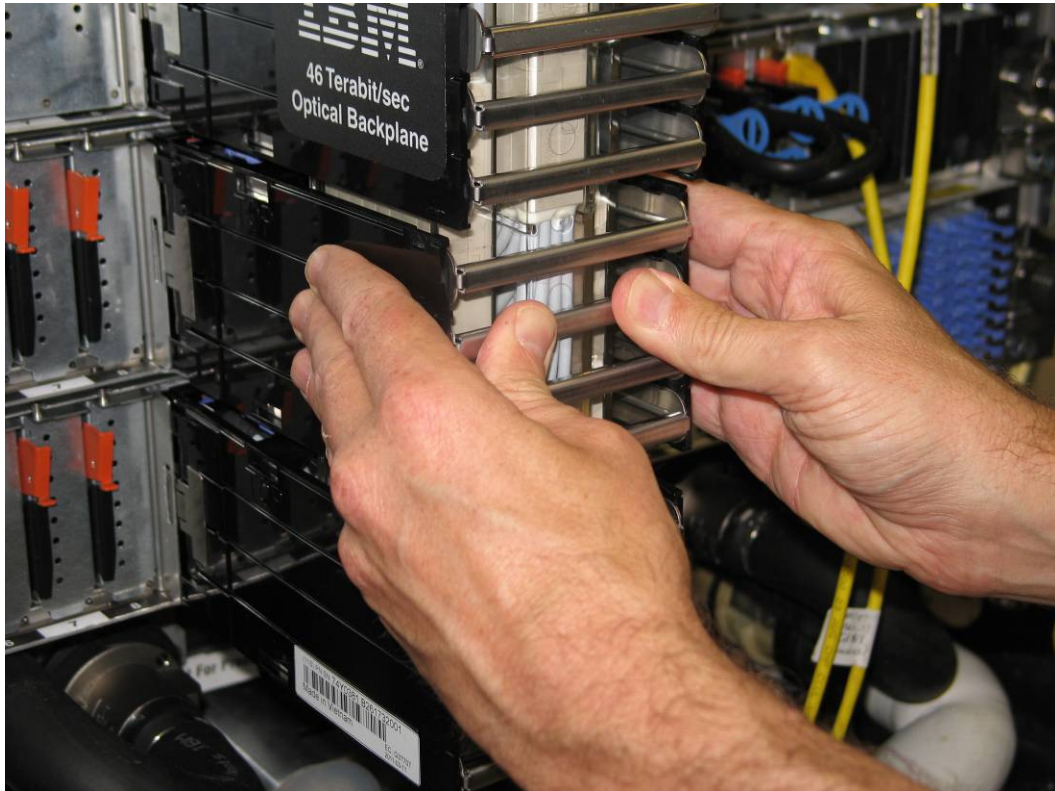

Figure 37 OBE Installation
- Once all 4 handles are slid forward with the L-Link connectors in the L-Ports of the adapters, do the final actuation of the handles, see Figure 37. This requires pushing the handle forward forcefully, hard enough to simultaneously seat the 12 connectors. It requires approximately 20 lbs of force for each handle to fully actuate all 12 connectors during insertion. When the connectors are fully actuated, an audible "click" will be heard, as all 12 connectors click into place.